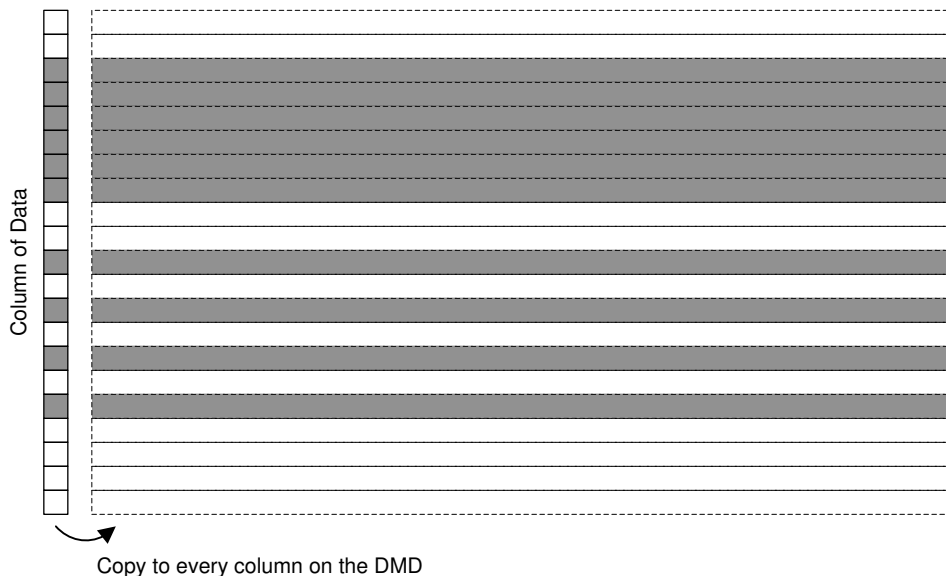
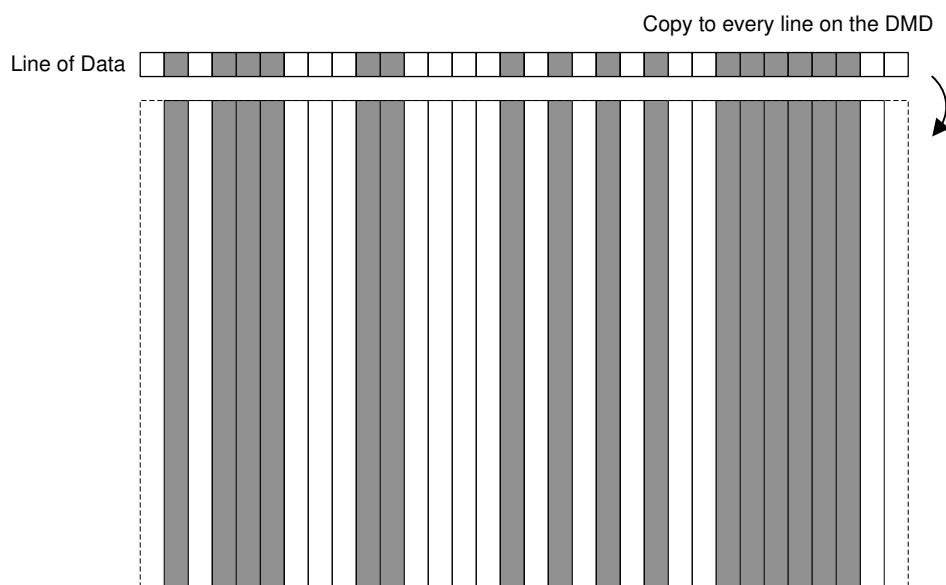

Figure 7-12. Column Replication
Figure 7-13. Row Replication
- Internal pattern mode only supports 1D patterns i.e the pattern data is the same across the entire row or column of the DMD (Figure 7-12, Figure 7-13).